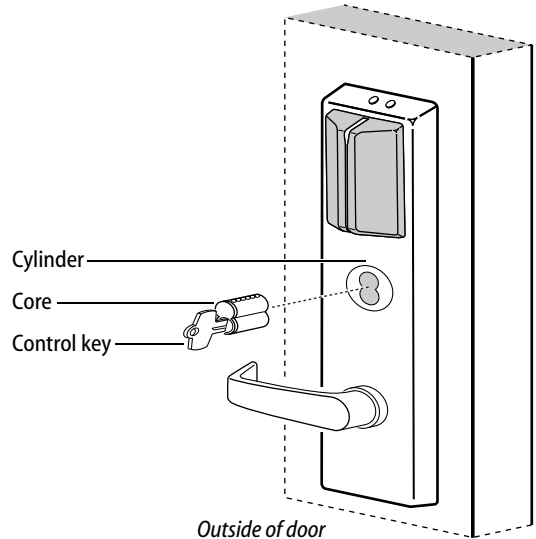

Figure 12 Installing the core (Offline G/ Series shown)
- 1 Insert the control key into the core and rotate the key 15 degrees to the right.
- 2 With the control key in the core, insert the core into the cylinder as shown in Figure 12.
- 3 Rotate the control key 15 degrees to the left and withdraw the key.